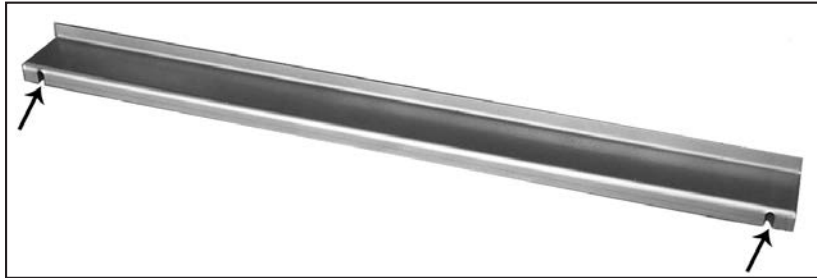

Figure 60: Brick panel bracket, slots shown.
1. Remove the two (2) screws from the rear of the baffle, use a $\frac{1}{4}$ " socket or a flat head screwdriver. Place the provided brick bracket (Figure 60) at the rear of the baffle with the slots over the screw holes (see Figure 60). Insert two (2) of the provided screws into the two (2) holes along the bottom of the baffle.